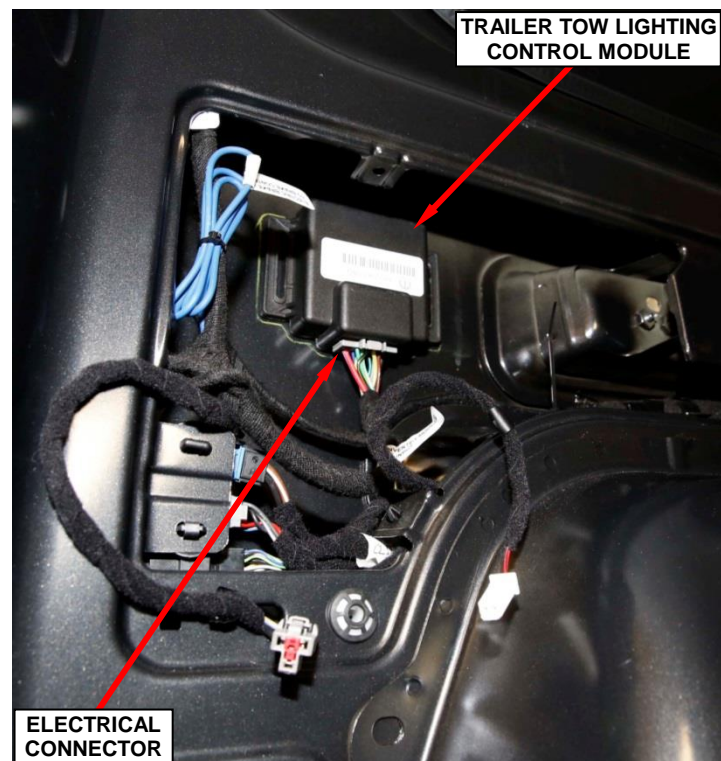

Figure 25 – Connect Electrical Connector
29. Connect the electrical connector to the trailer tow lighting control module (Figure 25).